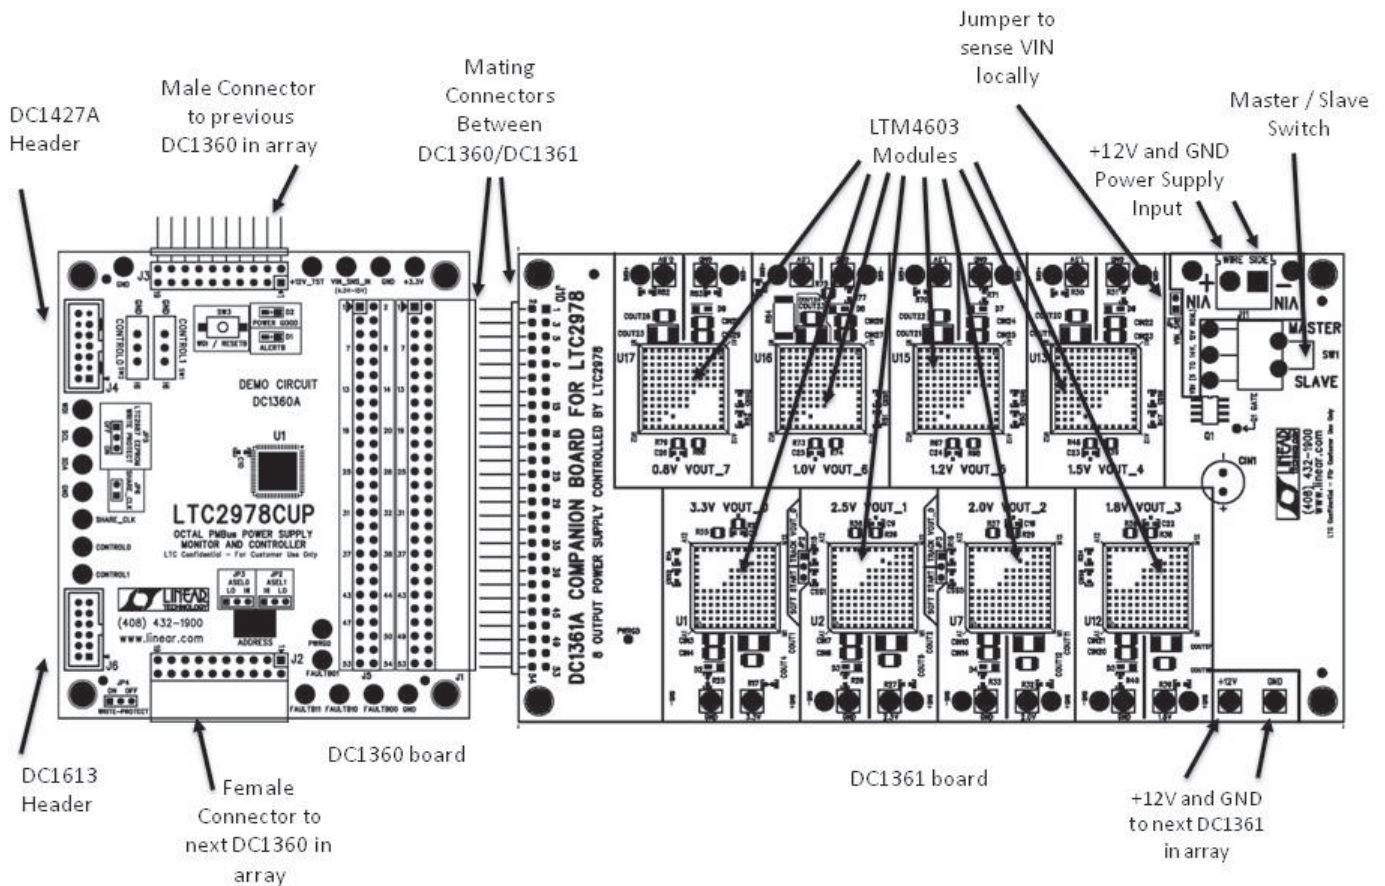

Figure 5. DC1540A Details
6. Connect a 12V power supply with > ½ Amp capacity to the VIN+ and VIN- inputs of the green terminal block J11 on DC1361A. Do not turn on 12V yet. Be careful to hook up polarity correctly! See Figure 5.